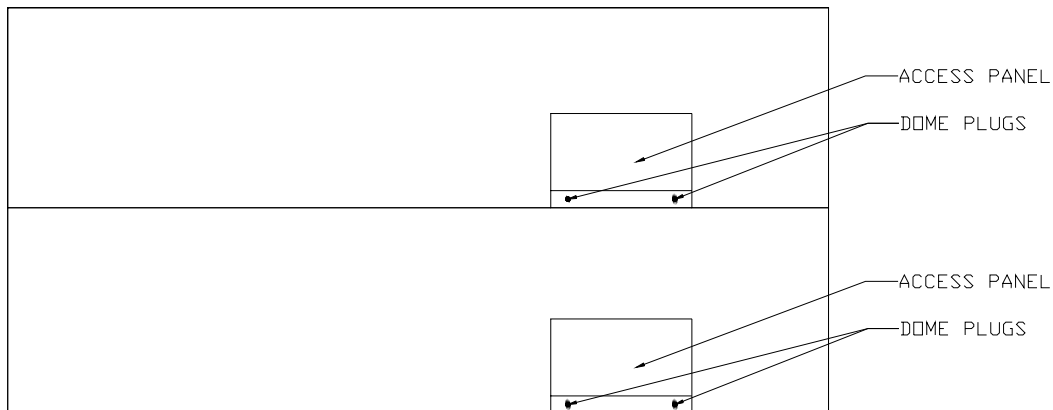

Figure 6 Lower Section Rear Access Panel
1. Remove the rear access panel and the dome plugs on the plate below the lower access panel. Figure 6 shows the location of the lower access panel and the dome plugs.